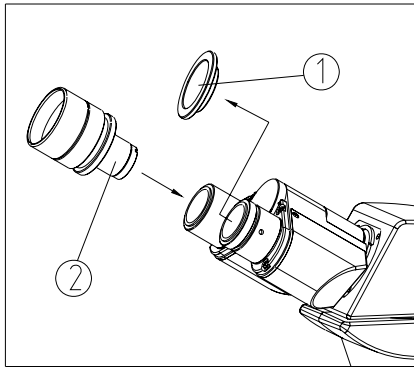

Fig. 5
1. Take down the cover of eyepiece tube①.
2. Insert the eyepiece② into the eyepiece tube, until touch the surface (see Fig. 5).